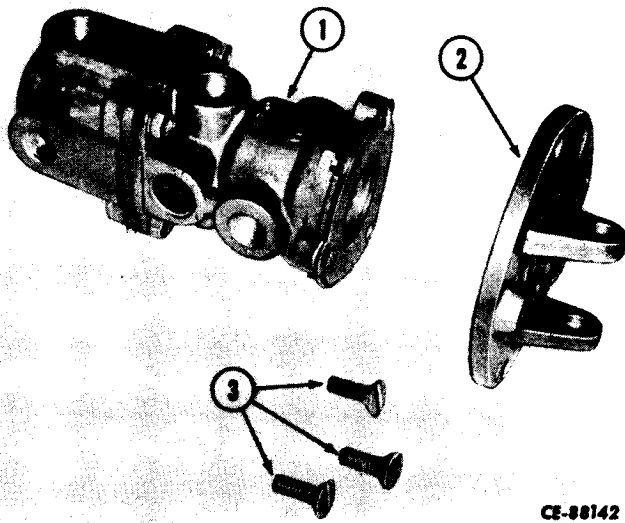

Figure 13-29
BOTH VALVES - Punch mark mounting plate (2, Fig. 13-29) and body (1) for reference at assembly.
BOTH VALVES - Place mounting plate (2, Fig. 13-29) on valve body (1), aligning punch marks made at disassembly, and secure with screws (3).